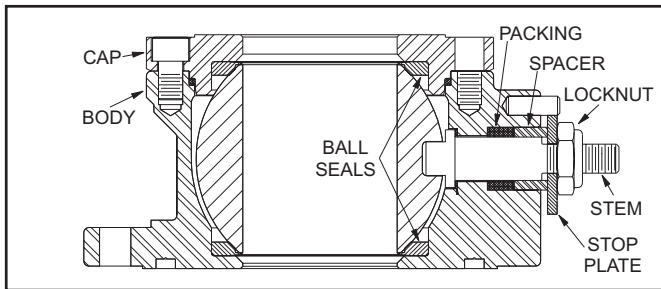

Figure 5 - Valve Inverted
2.1.1 Locate the valve on a bench and preferably on a pressure test fixture to which it may be bolted for safety and rigidity during hardware removal. Secure it with the 8-bolt flange downward (Fig. 5).
2.1.7 Remove the locknut from the valve stem by turning it counterclockwise (Fig. 5).